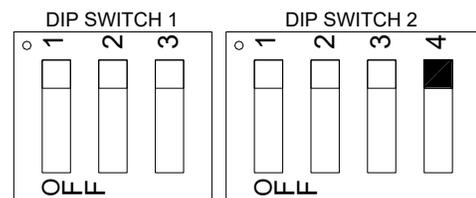

Figure 7
- The motor will forcibly run as long as the RUN input is closed when DIP switch 2-4 is ON (Figure 7)